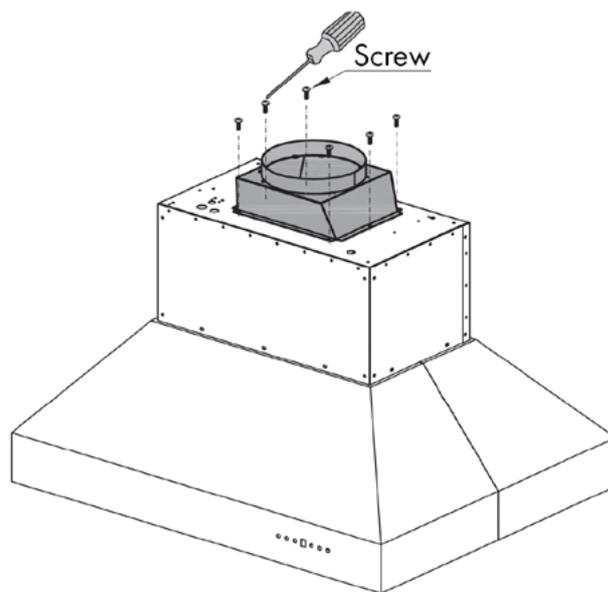

Figure 3
5. Use 16 screws (F) to attach the transition piece to the top of the hood. Ensure the dampers in the transition piece open upward, not downward. Figure 3